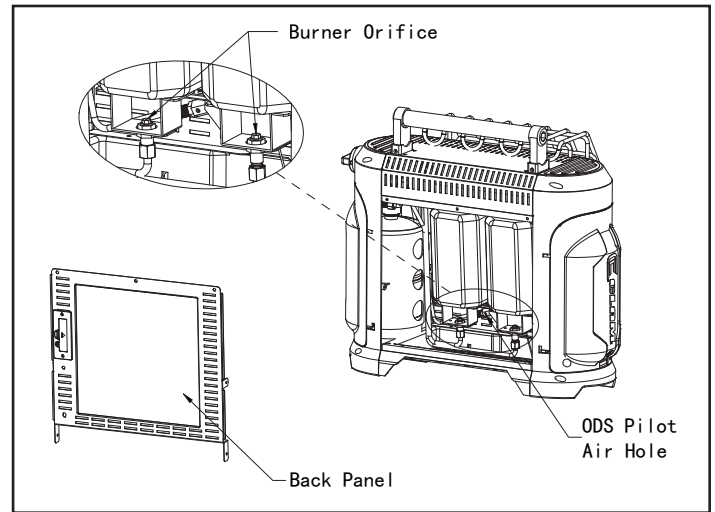

Fig. 5 - Burner Orifice Location
Always keep the heater area clear and free from combustible materials, gasoline and other flammable vapors and liquids. Keep the vent areas (slots in the bottom and the top at the front of heater) clear at all times so combustion air and ventilation is not obstructed. Keep the ventilation openings of the cylinder enclosure free and clear from debris. Visually inspect the pilot flame and burner periodically during use so combustion air and ventilation is not obstructed. The pilot flame should be blue in color (not yellow) and will extend beyond the thermocouple. The flame will surround the thermocouple just below the tip, see Figure 5. A slight yellow flame may occur where the pilot flame and main burner flame meet. The burner(s) should be bright orange (with a slight blue color around the border, a red-orange haze that is visible on the burner is acceptable) and without a noticeable flame. A blue flame that rolls out at the top indicates an accumulation of dust, lint or spider webs inside the main burner assembly. If the pilot is yellow or the burner has a noticeable flame, cleaning may be required. Use the following procedure to inspect main burner assembly. It is necessary to periodically check the burner(s) orifice and burner venturi tube to make sure they are clear of insects/nests or spider webs that may accumulate over time. It is strongly recommended that these maintenance instructions be performed annually. A clogged tube can lead to a fire.
6. Inspect and clean pilot (mounted to bracket) by using a vacuum or apply air pressure through the holes in the pilot indicated by the arrows in Figure 5.